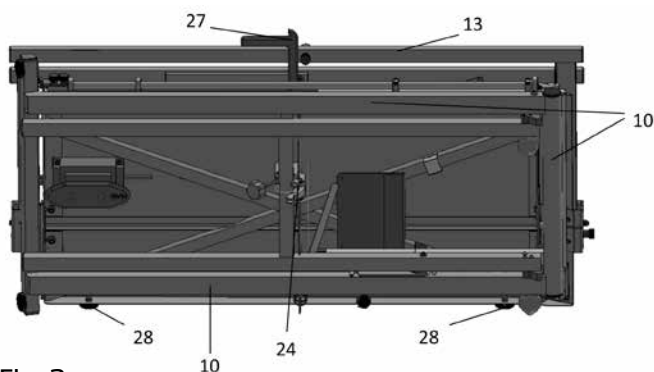
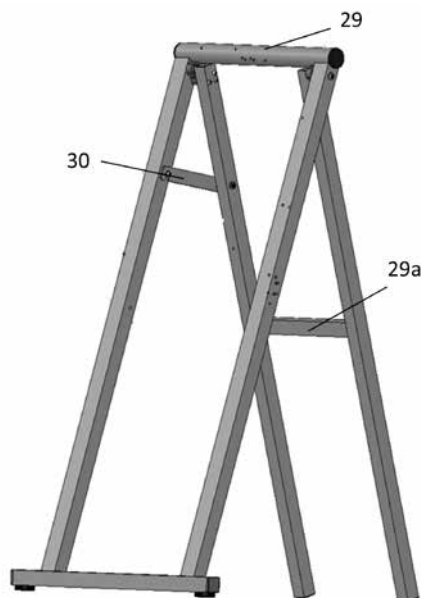

Fig. 3
Fig. 4
Do not use the cutting bow to lift the device (Pos. 13, Fig. 3) from the case. Fold out the carrying handle (Pos. 27, Fig. 3) and use it to lift the device. Set up the device in the same way as you remove it from the case, on the rubber feet located on the long side (Pos. 28, Fig. 3).
Open the fastening clamp for the base (Pos. 24, Fig. 3) and separate this from the device. Set up the base as shown in Fig. 4 and lock the safety latch (30).
Lift the ProCut top by the carrying handle (Pos. 27, fig. 3) and the base plate (Pos. 1, Fig. 1) and centre it with the mount for the base (Pos. 23, Abb. 5) on the support for the ProCut top (Pos. 29, Fig. 4).
The transformer with cable reel (Pos. 26, Fig. 2) then leans against the support for the transformer with cable reel (Pos. 29a, Fig. 4). Then fasten the device on the support using the fastening clamp for the base (Pos. 24, Fig. 5). The is used in freestanding state in this position.
Open the safety latch (Pos. 30, Fig. 4) on the base/the freestanding support (Fig. 4) and fold in the base.